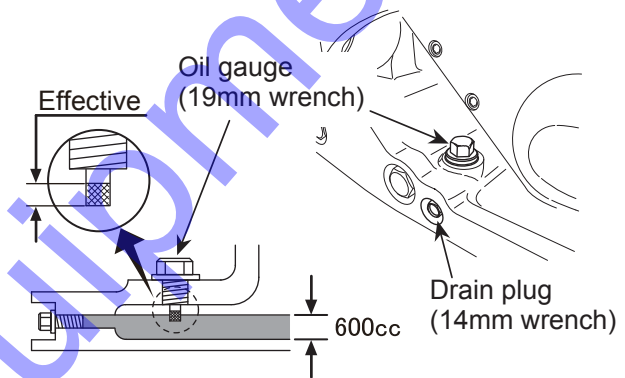

Figure 10. Vibrator Oil Check
2. Check vibrator oil level by removing the oil plug (vibrator oil gauge) as shown in Figure 10. Clean the oil gauge and re-thread back in. Remove the oil gauge again and confirm oil level does not exceed the cross hash of the oil plug. **DO NOT OVERFILL**